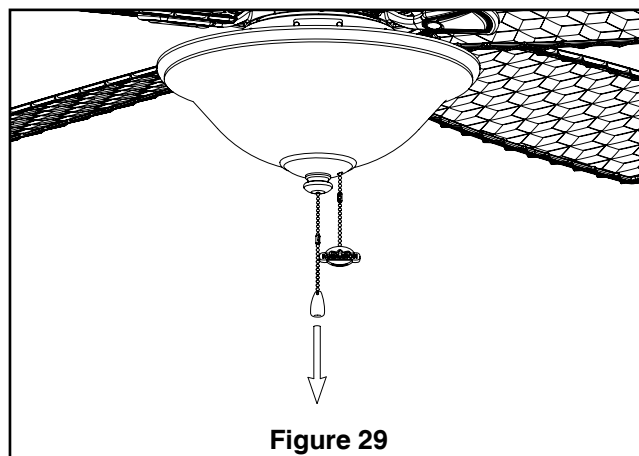

Figure 29
4. **<<FP8011OB ONLY>>** Check the operation of the down light by gently pulling on the light pull chain. (Figure 29)